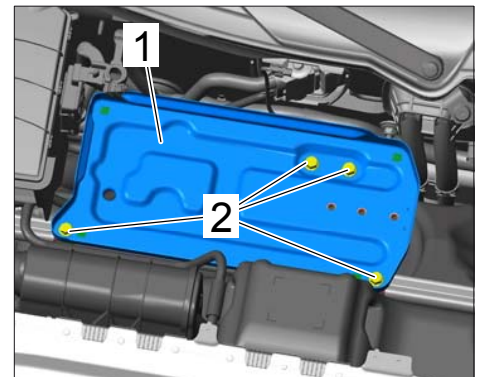

Figure 1
- 7.1 Loosen fastening screws ⇒ *Figure 1 -2-* and lift up battery console ⇒ *Figure 1 -1-*.